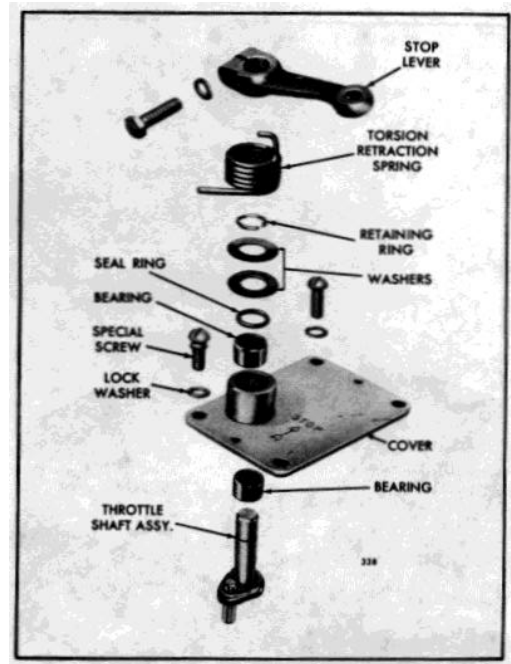

Fig. 3 Governor Cover Details and Relative Location of Parts
1. Disassemble the governor cover (Fig. 3).